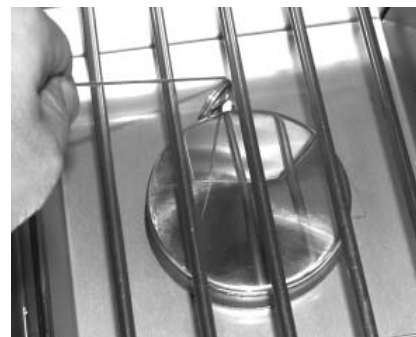

Fig. 15-2 - Manual lighting
**CAUTION:** Always wait five (5) minutes for gas to clear after any unsuccessful lighting attempt.
2. Insert either a burning long-barrel butane lighter, a burning long-stem match, or a burning match held by a wire extension holder through the cooking grid opening to the burner (Fig. 15-2). Hold the flame against the edge of the burner.
4. If the burner does not light within five (5) seconds of turning the control knob, **immediately depress the knob and turn the valve to OFF**. **WAIT FIVE (5) MINUTES** before repeating steps 2 through 4 of the **MANUAL LIGHTING** instructions.